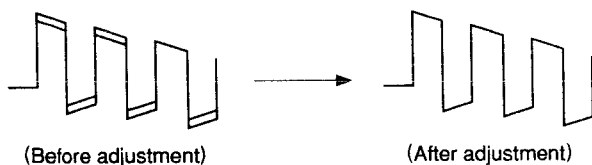

Fig. 3
4. Adjust L105 and minimize the double outlines of waveform (Fig. 3).